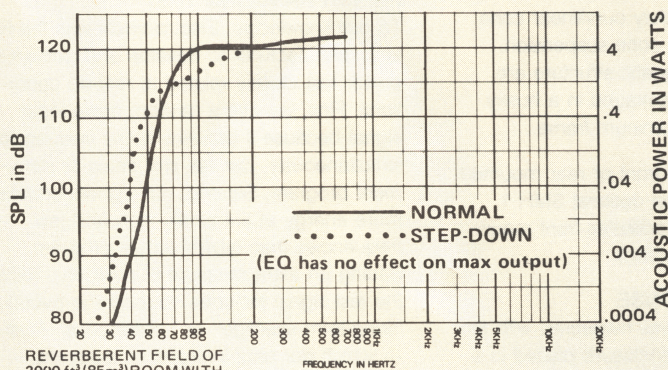
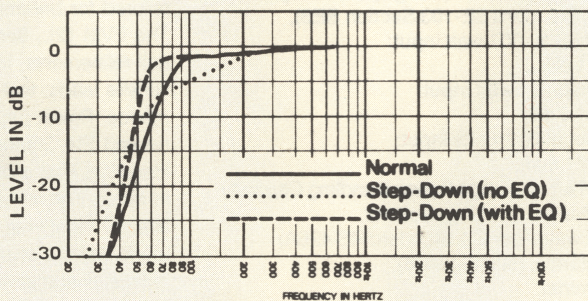

FIGURE 7
FIGURE 6
Figure 6 shows small-signal total acoustic power output versus frequency for the TL806/EVM-12L. In addition, Figure 7 shows the maximum acoustic power output versus frequency. The maximum output is limited by either (1) the thermal power handling capacity of the speaker, or (2) the speaker's maximum linear cone excursion capabilities, whichever occurs first. Note that some 2 to 3 dB of maximum output in the 80 to 130 Hz range is sacrificed when the step-down mode is used.